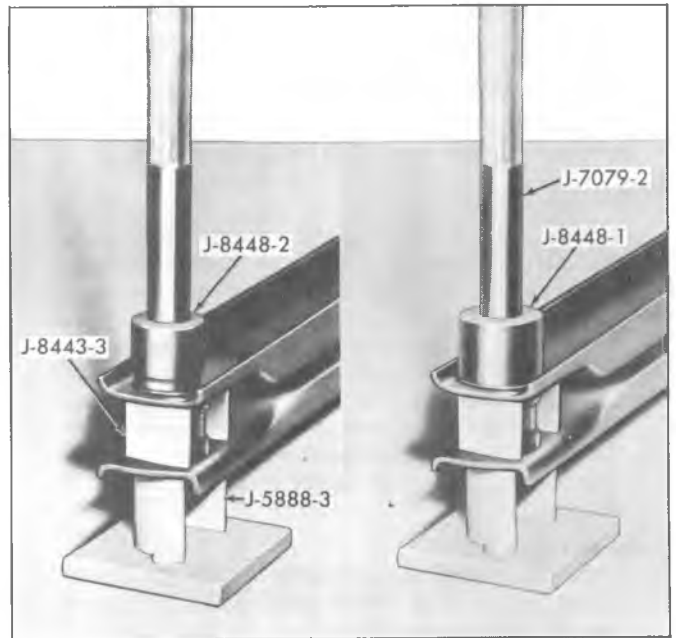

Fig. 7—Control Arm Bushing Replacement (Series C-P10-C20)
1. Insert Tool J-8448-3 in fork of control arm astride bushing (fig. 7).